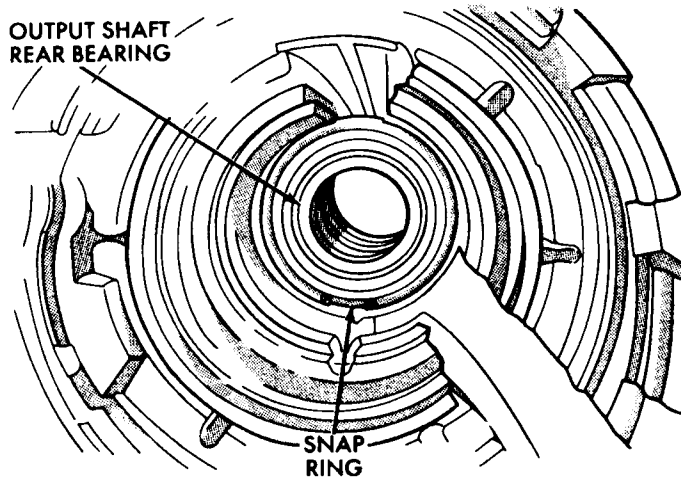

Fig. 15 Output Shaft Rear Bearing And Snap Ring Location
- (16) Remove output shaft rear bearing snap ring (Fig. 15). Remove snap ring with long jaw internal type snap ring pliers. Or, rotate snap ring until one end is adjacent to notch in case. Then unseat ring with extra long flat blade screwdriver.
- (17) Remove rear bearing by tapping overdrive case on wood block to dislodge bearing.